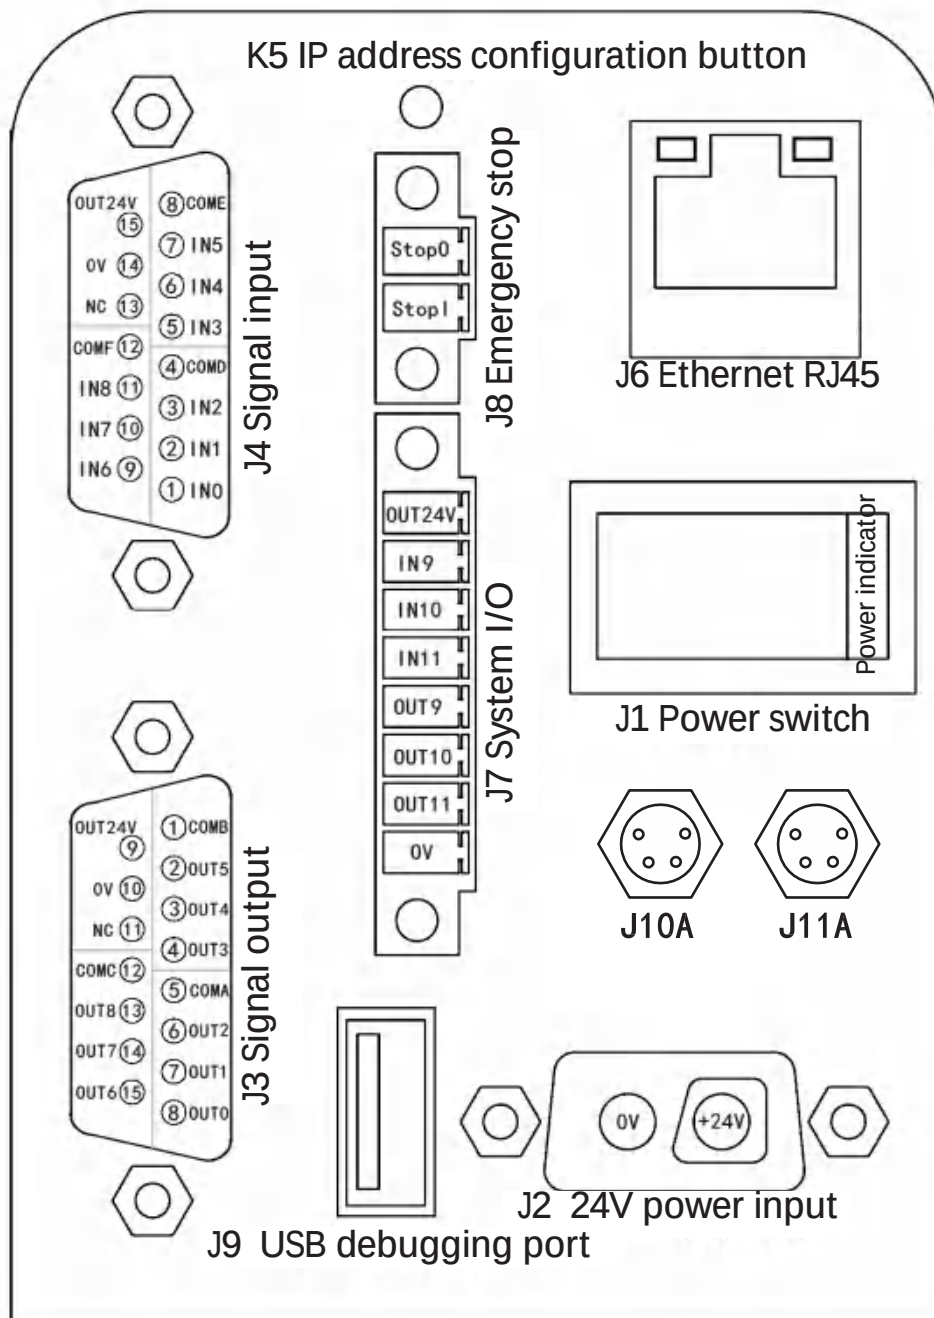

Figure 1
1. General schematic diagram of the base interface at A (as shown in Figure 1)
2. Figure 1 interface definition description